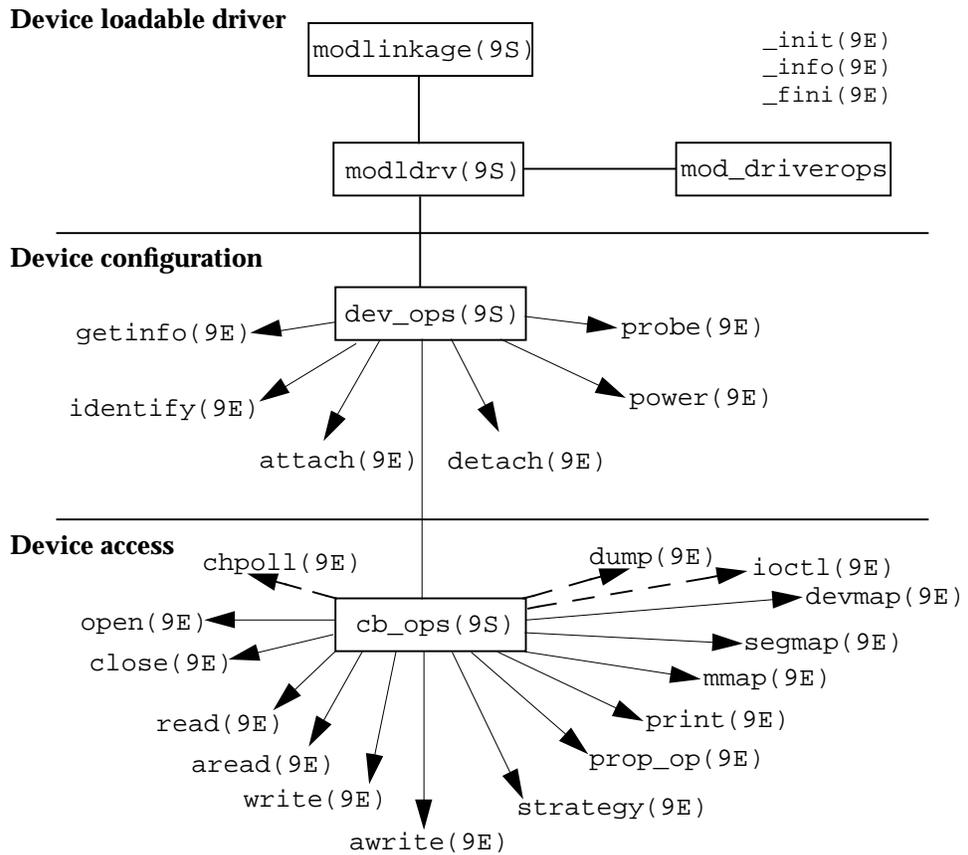

Figure 3-1 Device Driver Roadmap
Figure 3-1 shows data structures and routines that may define the structure of a character or block device driver. Such drivers typically include a device loadable driver section, device configuration section, and device access section.
**Note** - The first two sections in Figure 3-1 are discussed in Chapter 5; the third section is discussed in Chapter 9 and Chapter 10.